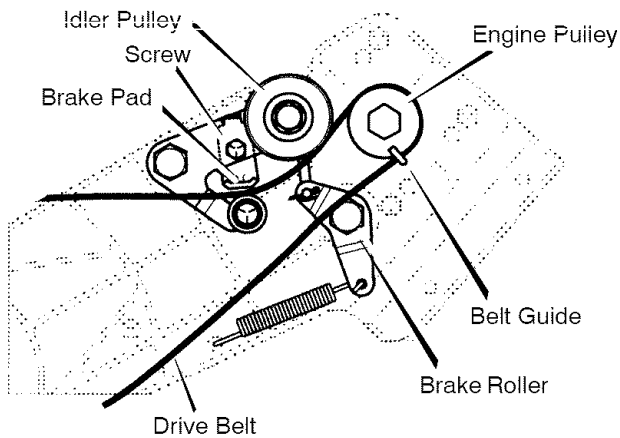

Figure 27
4. Loosen the **screw** and nut on the **brake pad arm** (Figure 27).